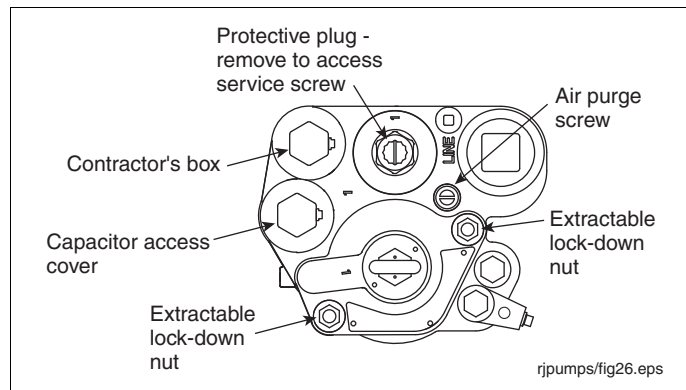

Figure 29. Extractable Lock-Down Nuts
2. Remove the two extractable lock-down nuts (see Figure 29). The springs on the lock-down studs between the extractable's flange and the manifold will push the extractable up, breaking the seals.
12. Turn the air purge screw 2 - 3 turns counterclockwise (see Figure 29).